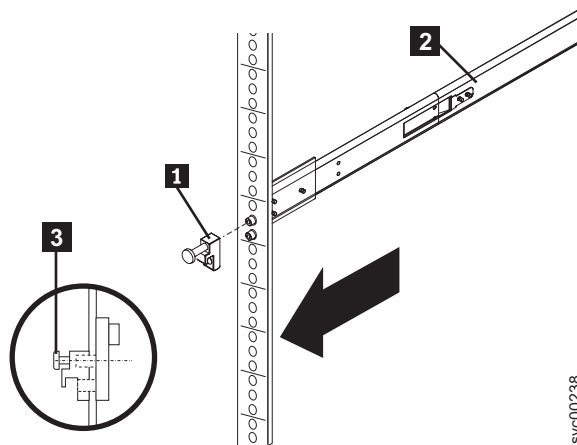

Figure 23. Attaching the latch strike to the front of the slide rail
5. Attach one latch strike **1** to the front of the right rail **2**, as shown in Figure 23, using the captive screw **3**. Turn the screw only finger tight. Attach the other latch strike to the front of the left rail in the same way.